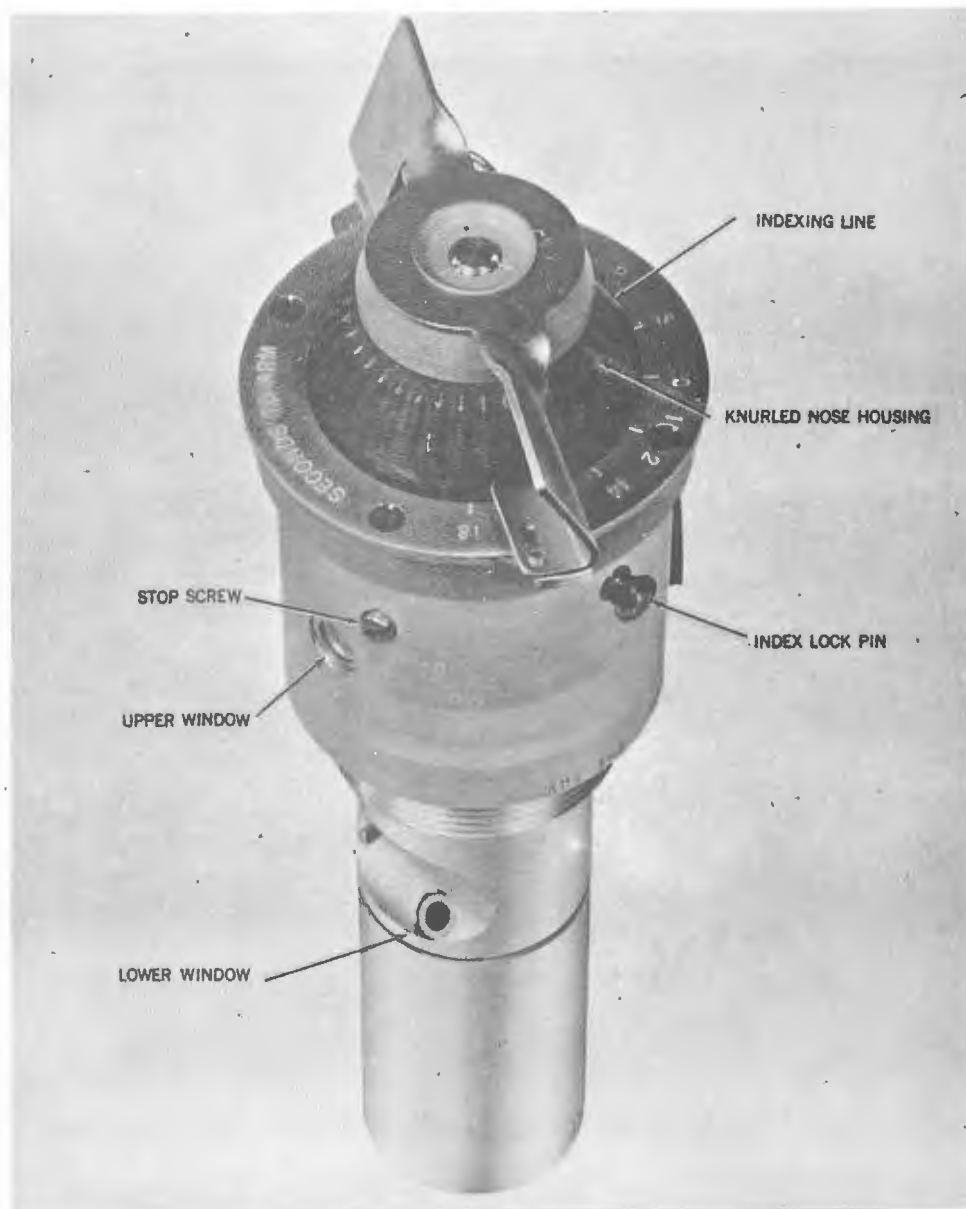

Figure 2-2B. M9 Delay Element Installation
**Arming and Functioning Time.** Variable arming time delays of from two to 18 seconds are preflight selected in two-second increments. Six functioning time delays are provided by six interchangeable delay elements M9. These delay elements provide either instantaneous detonation at impact, or delays of 0.01, 0.025, 0.05, 0.1 or 0.25 seconds, depending upon the delay element installed in the fuze. An M9 element is shown in Figure 2-2B. A nose vane coupled to a clutch-type governor limits the governor to a constant speed of 1800  $\pm$ 100 RPM, thus providing constant arming time.
1. Remove the previously installed element, as shown in Figure 2-2B, by depressing the spring-loaded locking pin on the side of the fuze body. Hold the fuze so that the delay element will fall out of its well into the hand.